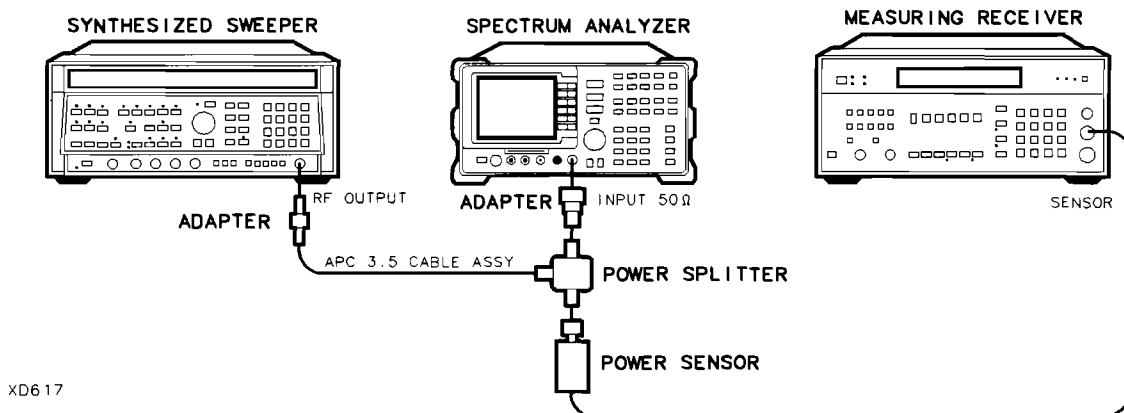

Figure 2-30. Frequency Response Test Setup, ≥ 50 MHz
2. Connect the equipment as shown in Figure 2-30.